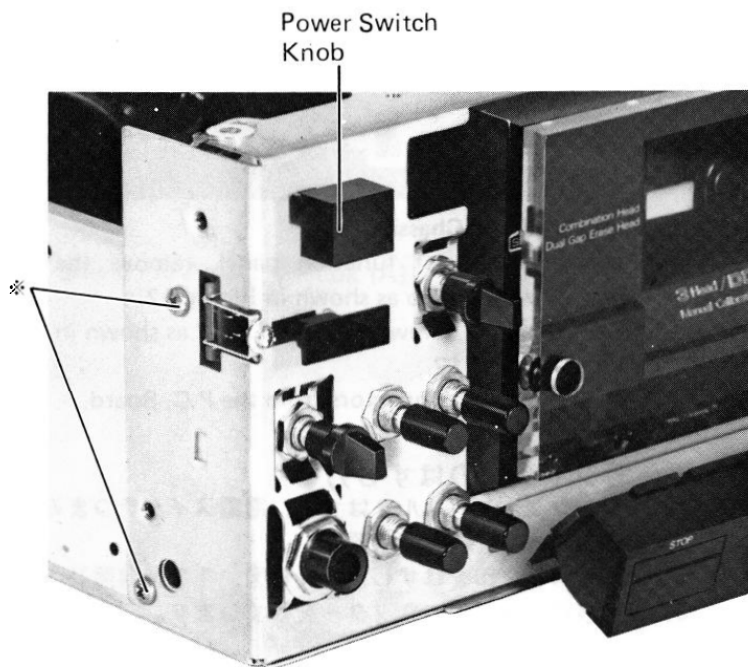

Figure 12
- (1) After removal of function panel, remove the power switch knob as shown in Figure 12.